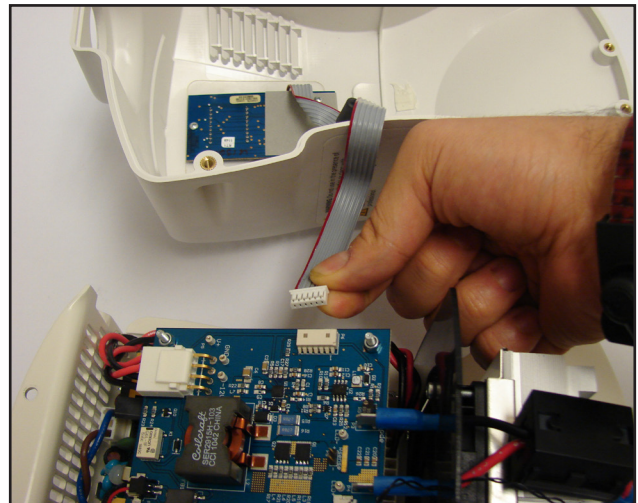

Figure 11-8
5. Slide off the unit cover gently until the control board harness is accessible and disconnect the harness from the LED driver board (Refer to Figure 11-8).